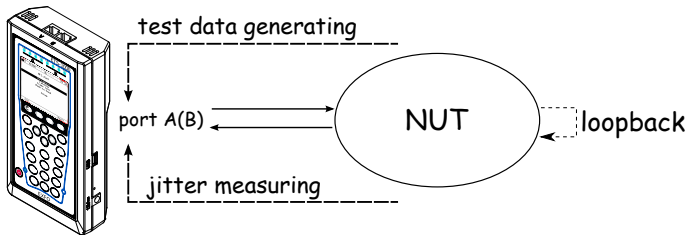

Figure 5.87. Jitter measurements. Scheme 1
- test data is generated and then jitter is measured at the same port (see fig. 5.87);